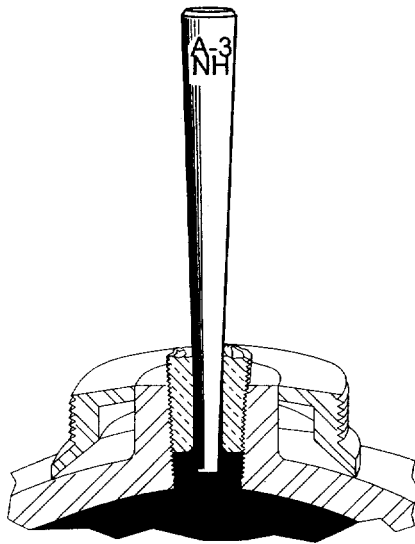

Fig 2.5.1
**ACTION:** Drive small DRIFT PIN A-3NH (Fig 2.5.1) into valve shank and apply DEVICE 1NH (Hood Assembly) (See page 5 for instructions)